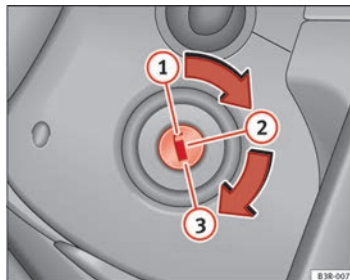

Fig. 135 Ignition key positions
- Turn the ignition key to position  ⇒ Fig. 135. ▶